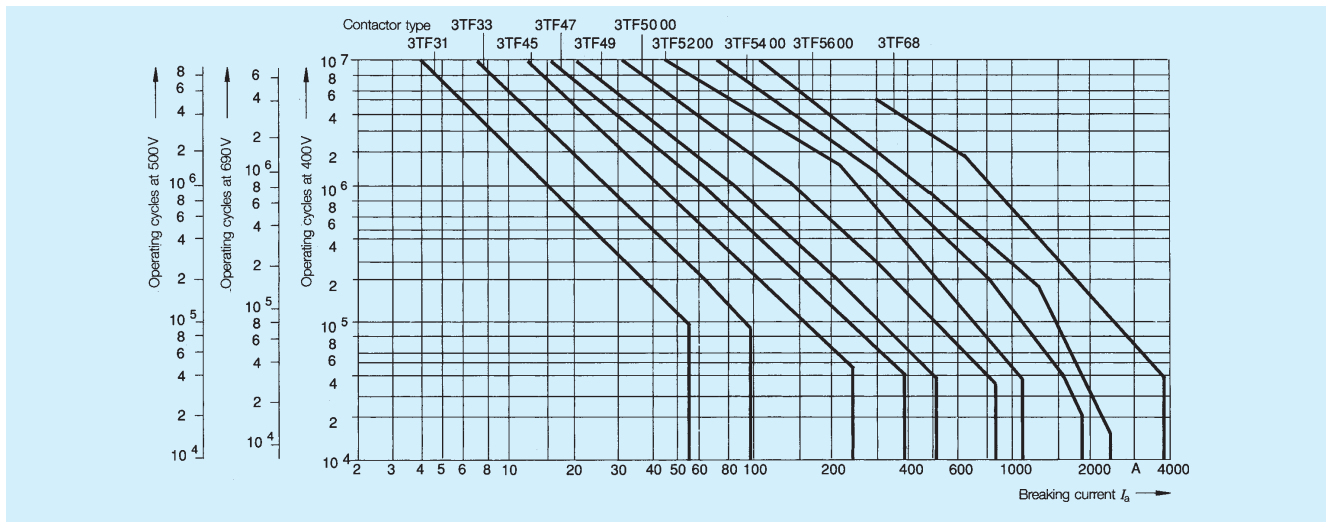

Fig. 1 Contact endurance of 3TF contactors as a function of breaking current when switching resistive and inductive AC loads.
- A Contact endurance with normal operation ( $I_a = I_e$ ) in operating cycles, from Fig. 1.